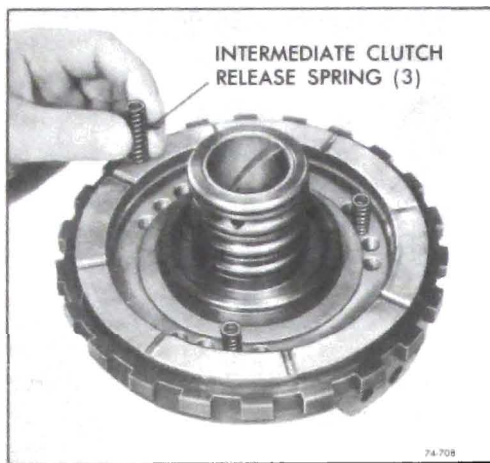

Figure 76-721
4. Install three (3) release springs into the piston, space equally during assembly. See Figure 76-721.